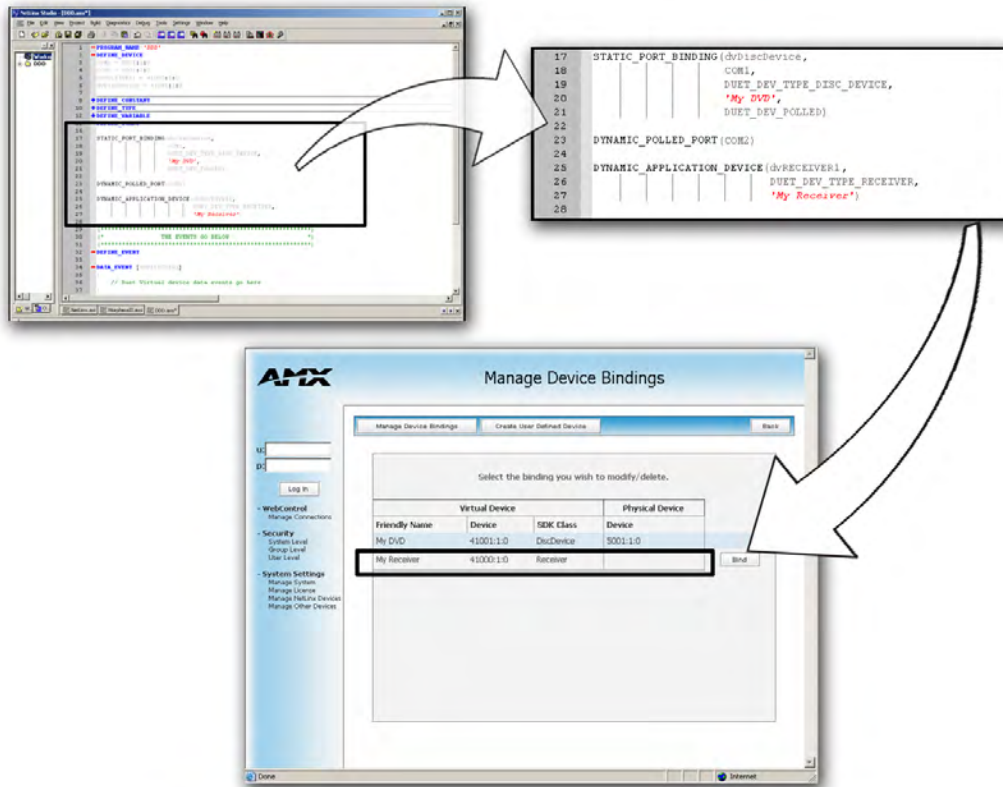
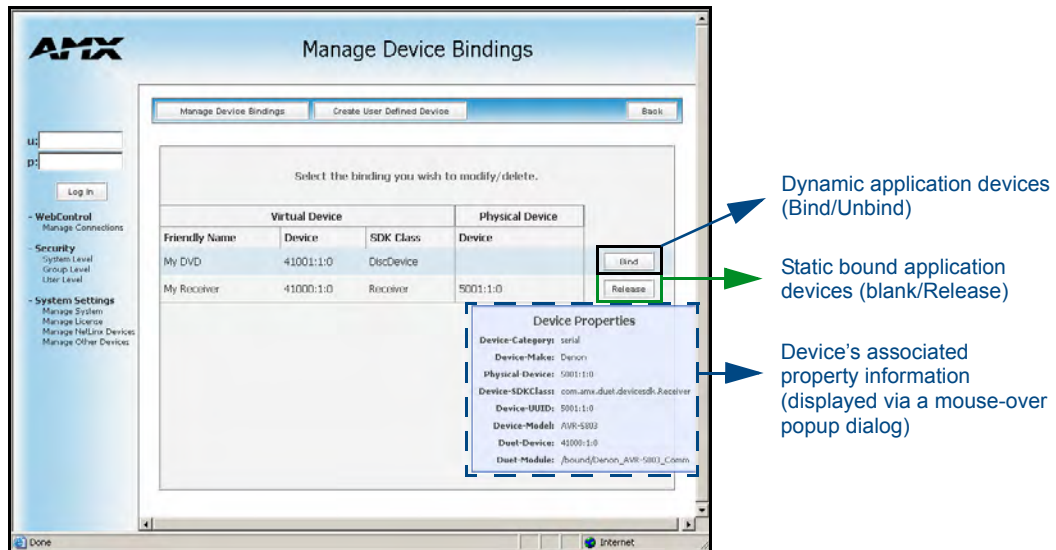

FIG. 65 Manage Device Bindings page - showing the NetLinx code relation
FIG. 66 Manage Device Bindings page
To access this page, click on the **Manage Device Bindings** button (*from within the Manage Other Device page*). This page is used to configure application-defined Duet virtual devices with discovered physical devices. The on-screen table (FIG. 66) displays a list of all application-defined devices (including the defined "friendly name"), the Duet virtual D:P:S, and the associated Duet Device SDK class (indicating the type of the device). This information would have been pre-coded into the NetLinx file currently on the target Master (FIG. 65).
Elements such as `DUET_DEV_TYPE_DISC_DEVICE` and `DUET_DEV_POLLED` are defined within the NetLinx axi. The latest version of the NetLinx.axi file contains both the new API definitions, as well as the pre-defined constants that are used as some of the API arguments (ex: `DUET_DEV_TYPE_DISC_DEVICE`). Sample code can be found within the `DEFINE_START` section seen in FIG. 65:
Each entry in the table has one of four values appear within the far right of the Manage Device Bindings page (FIG. 66).
- Add the NetLinx `STATIC_PORT_BINDING` API call to the section of the NetLinx program (FIG. 65 on page 104) containing the: Duet Virtual Device D:P:S, the NetLinx physical device D:P:S, the Duet Device type constant, and the associated friendly name string.
- Add the `DYNAMIC_APPLICATION_DEVICE` API call to the section of the NetLinx program (FIG. 65 on page 104) containing the Duet Virtual Device D:P:S, the Duet Device type constant, and the associated friendly name string.